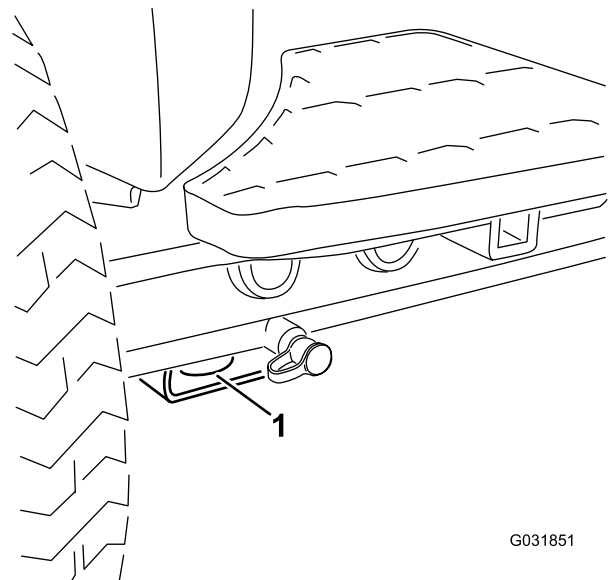

Figure 25
- **Front of the machine**—the hole in the rectangular pad, under the axle tube, inside each front tire (Figure 25).